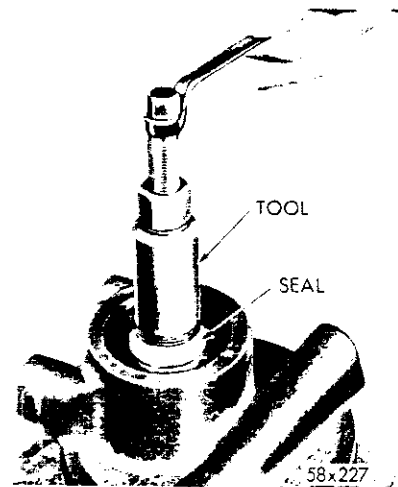

Fig. 60—Removing the Pump Oil Seal (Typical)
(9) Remove the oil seal by threading Tool C-3783 far enough to engage the metal portion of the seal (Fig. 60). Turning the puller center screw while holding the tool body will force the seal assembly from the pump.